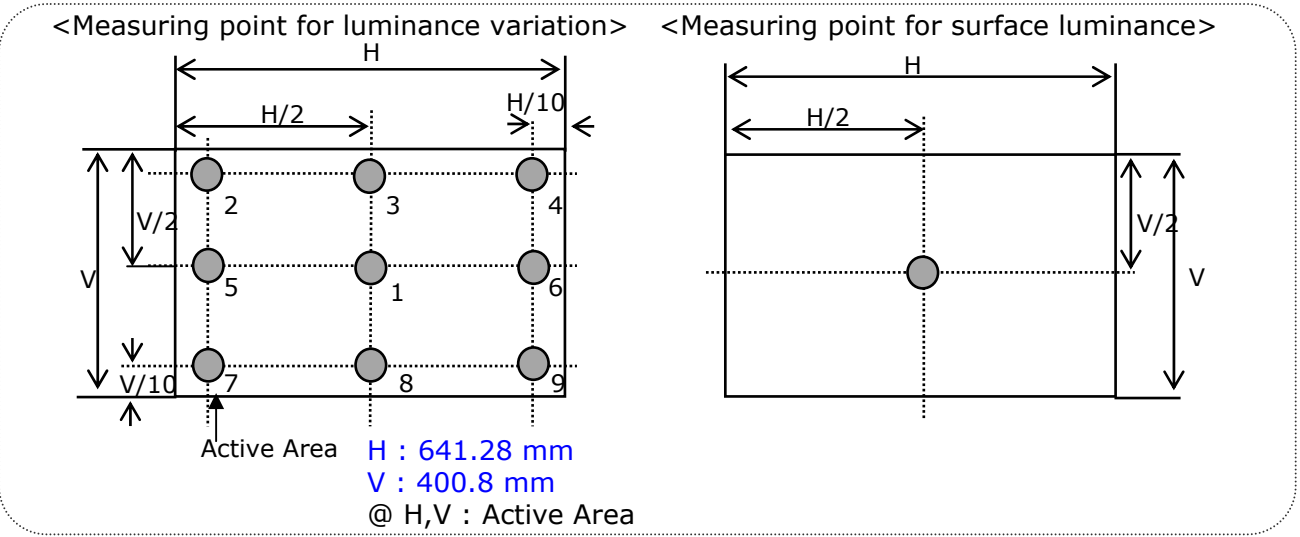

FIG. 3 Measure Point for Luminance
2. Surface luminance(L_{WH})is luminance value at center 1 point(1) across the LCD surface 50cm from the surface with all pixels displaying white. For more information see FIG 3.
Where L1 to L9 are the luminance with all pixels displaying white at 9 locations. For more information see FIG 3.